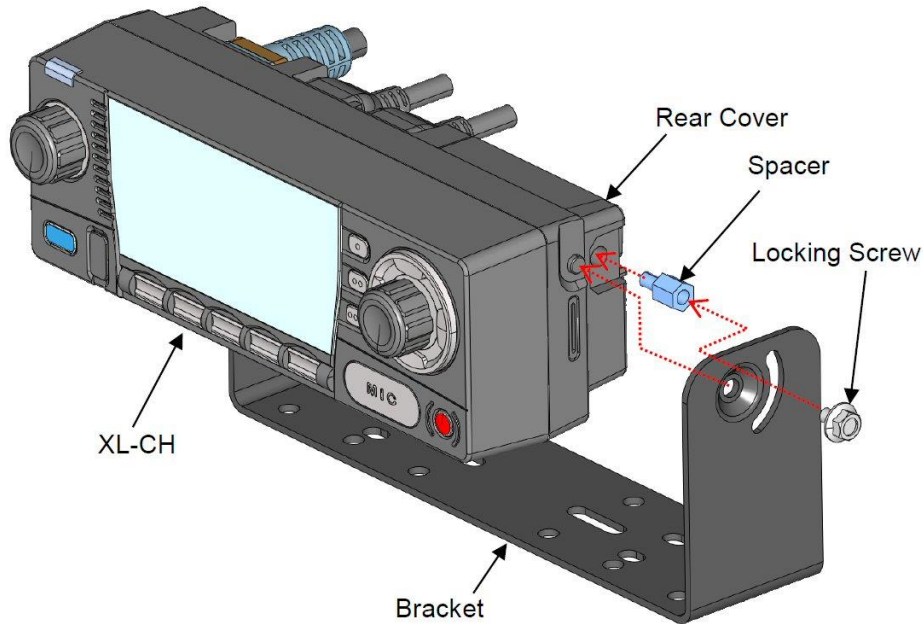

Figure 9-9: Install the XL-CH into the Bracket
6. Referring to Figure 9-9, install a hex spacer on each side of the XL-CH and torque to 5.85 Nm. Slide the XL-CH into the bracket and secure with the locking screw.